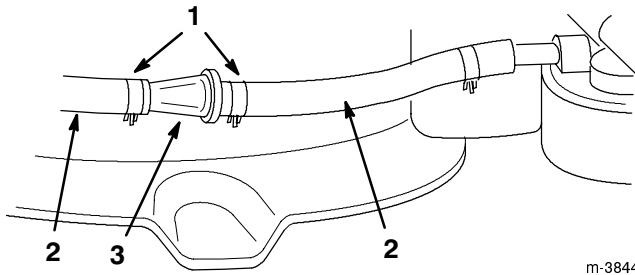

Figure 41
Replace the fuel filter after every 100 operating hours or yearly. The best time to replace the fuel filter (Fig. 41) is when the fuel tank is empty. Never install a dirty fuel filter after you remove it from the fuel line.
1. Squeeze the ends of the hose clamps together and slide them away from the filter (Fig. 41).